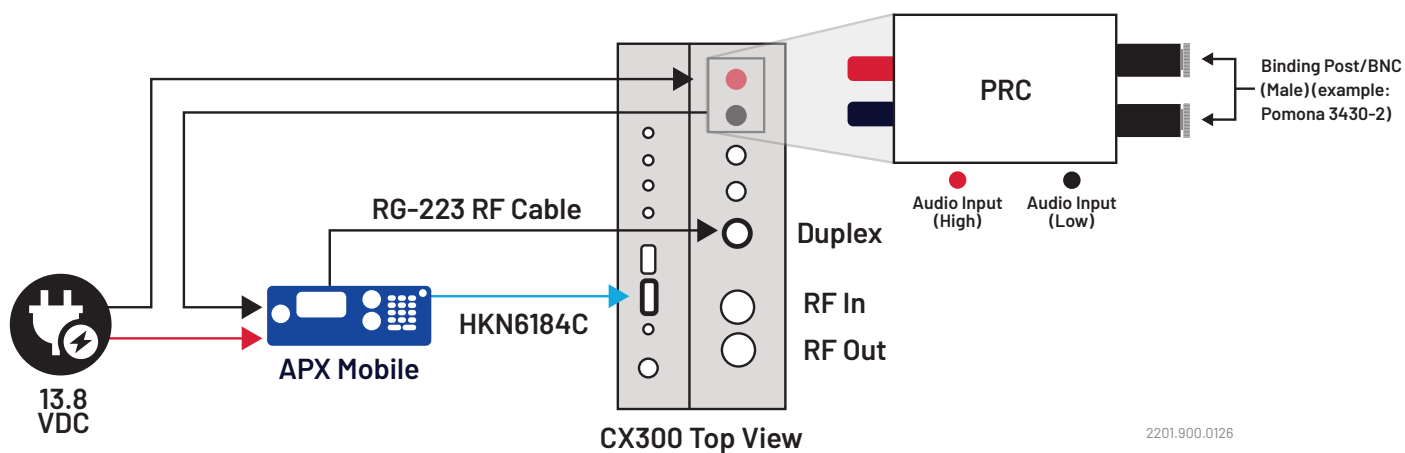

Figure 2. Mobile with Current Shunt
2. (Fig.2) shows the connection information using the Current Shunt and programming cable: HKN6184C